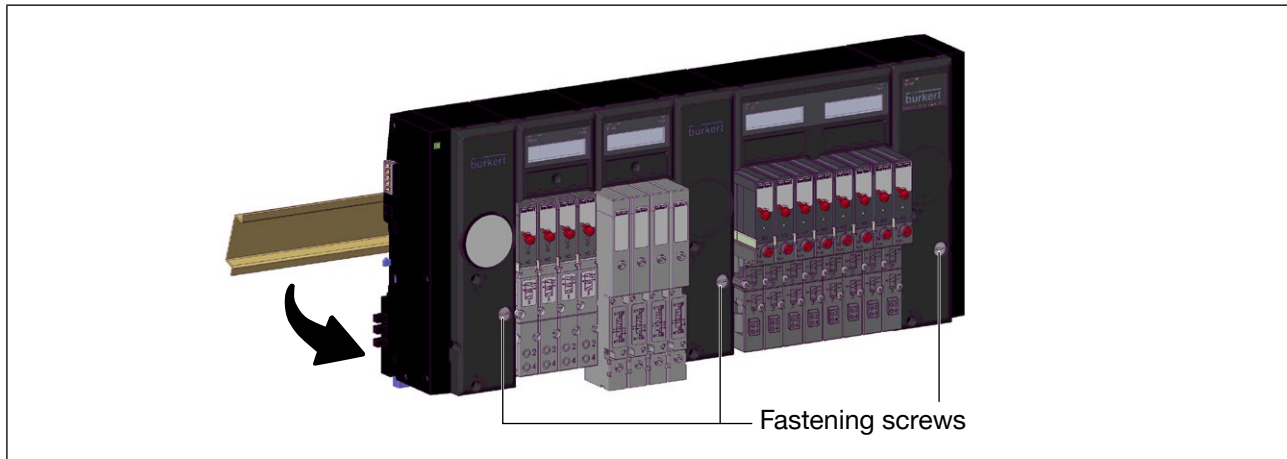

Figure 9: Releasing the valve block from the standard rail
- Make sure all the fastening screws of the valve block (see “Figure 9”) are turned all the way counter-clockwise.
- Turn the fastening screws of the valve block (see “Figure 9”) carefully all the way counter-clockwise. **Hold the valve block! The valve block is not connected securely to the standard rail after loosening the fastening screws.**